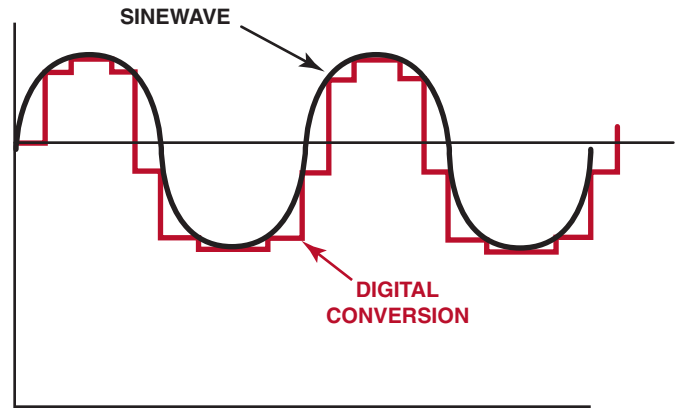

FIGURE 13-3 An AD converter changes analog (variable) voltage signals into digital signals that the PCM can process.
A digital computer changes the analog input signals (voltage) to digital bits (*binary digits*) of information through an **analog-to-digital (AD) converter** circuit. The binary digital number is used by the computer in its calculations or logic networks. ● **SEE FIGURE 13-3**.